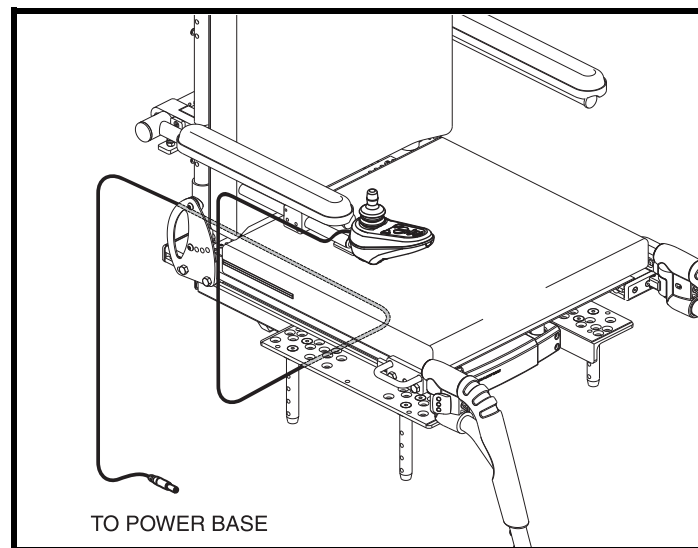

Figure 12. Controller Routed on a TRU-Balance Power Tilt
4. Install the controller and route the harness to the back of the power base. See figures 12 and 13.